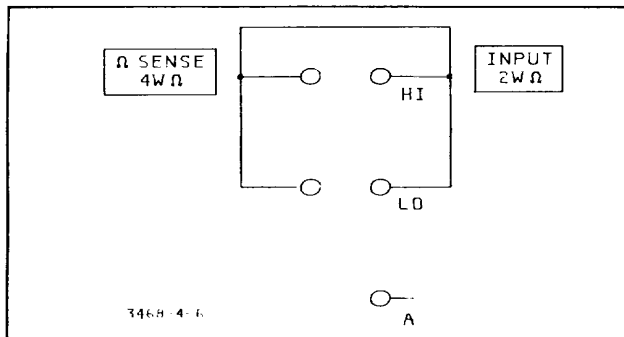
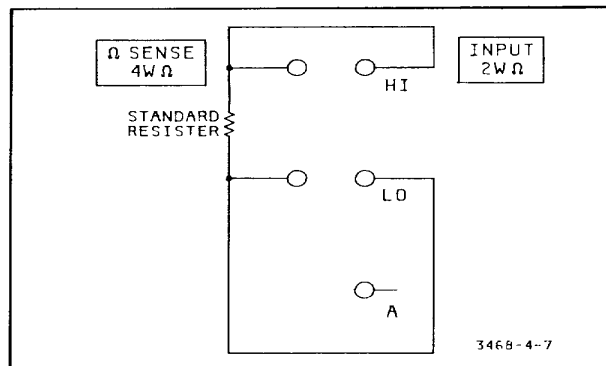

Figure 4-6. 4-Wire Ohms Short
Figure 4-7. 4-Wire Ohms Connection
4-72. If the 3478A is to be tested in the 2-Wire Ohms Function, all test resistors are applied to the 3478A's INPUT Terminals. If the 4-Wire Ohms Function is to be tested, short the INPUT Terminals and connect the test resistors to the terminals, as shown in Figure 4-6 and Figure 4-7, respectively.
b. (Step #2.) Set the 3478A to the desired Ohms Function (see paragraph 4-70). If the 2-Wire Ohms Function is to be tested, short the HI and LO INPUT Terminals. If the 4-Wire Ohms Function is to be tested, short the SENSE Terminals and the INPUT Terminals, as shown in Figure 4-6. Check the reading on the 3478A's display and record the reading on the Test Card.
determine the resistor value). If the 3478A is to be tested in the 2-Wire Ohms Function, connect the resistor to the HI and LO INPUT Terminals. If the test is to be done in the 4-Wire Ohms Function, connect the resistor as shown in Figure 4-7.